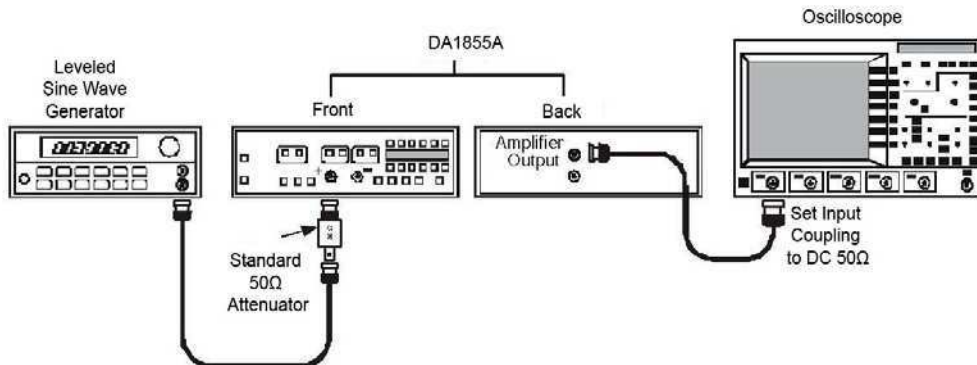

Figure 16, X1 Bandwidth Check Setup
- Insert a standard 50 Ω termination on the free end of the cable and connect the termination to the +INPUT of the DA1855A. Refer to Figure 16.